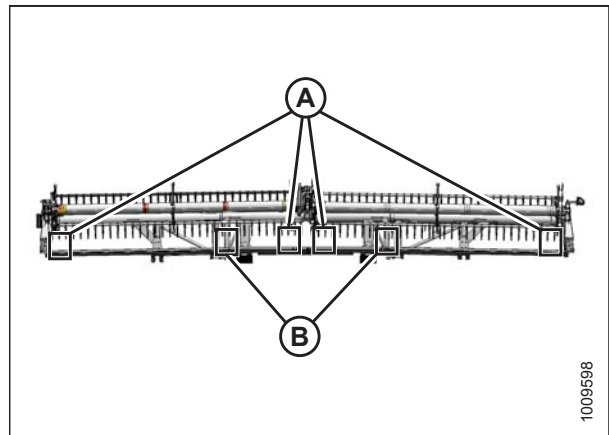

Figure 5.219: Measurement Locations
8. Measure the clearance (X) between points (C) and (D) at the ends of each reel (A), and at the flex locations (B). (Refer to Figure 5.219, page 444 for measurement locations.)